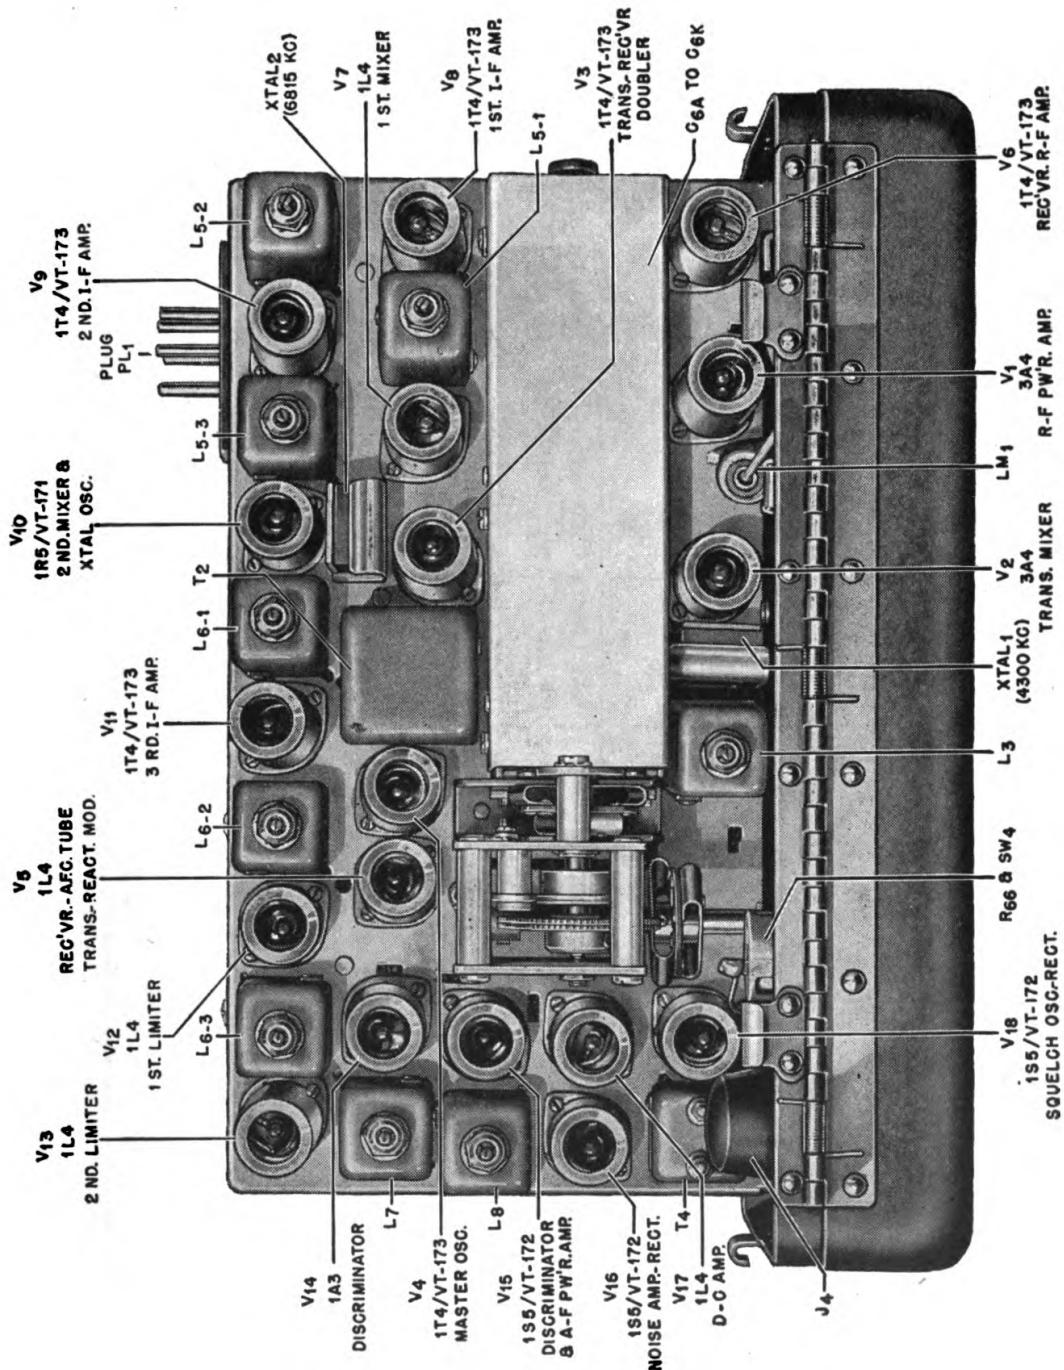

Figure 18. Radio Receiver and Transmitter BC-1000-A, Chassis Top View.
c. Burned out tubes can be located by following instructions in Burned Out Tube Location Chart in this paragraph. *It is not necessary, nor is it recommended that any but the defective tubes be replaced.* If the defect cannot be located as a burned out or broken tube, as indicated by the tests in the chart, don't attempt further analysis unless complete test equipment is available. When replacing tubes, make sure that the proper type of tube is used. Check this by reading the type number of the tube removed from the socket, and also by comparing the new tube with the tube number stamped on the chassis. (Tube layout is shown in Figure 18).